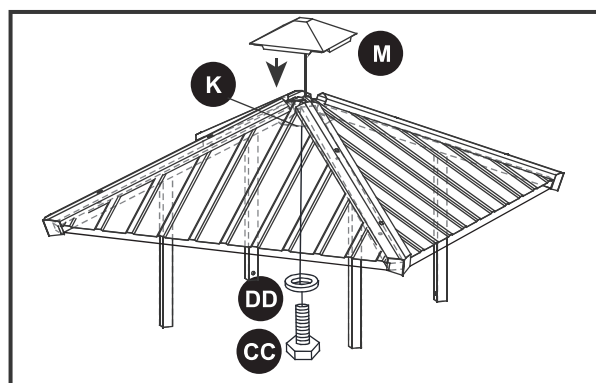

Fig.23
15.2 Attach the Vented roof (M) onto the Center connector (K) with a Bolt and Washer (CC/DD). See Fig.23.